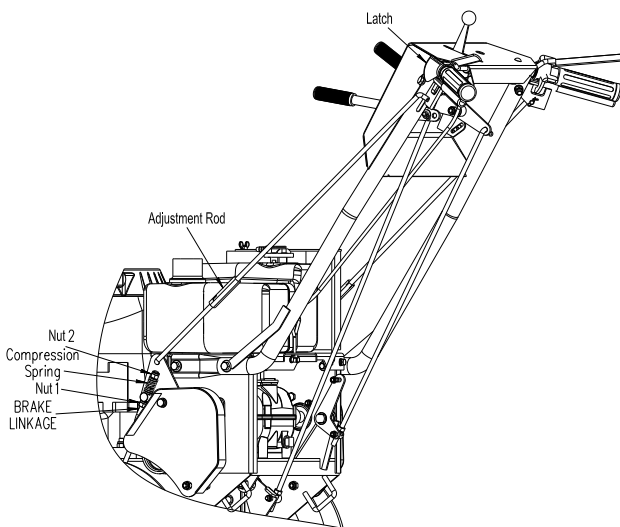

FIG 11
- Loosen the nut on the tension pulley of the transmission drive belt. Remove the tension pulley and the belt you need to replace. Install the new belt, then install the transmission drive pulley in reverse order. Adjust the belt according to the method of belt adjustment, then tighten the nut. (See FIG 11)
- Adjusting the brake force: Lift the left / right shift rod and lock it by the buckle. Rotate nut 1 and nut 2 of the brake lever, so as to compress the spring to get enough brake force. Then rotate nut 1 again, ensure that 1mm gap is maintained between nut 1 and the rod end connector. (See FIG 11)